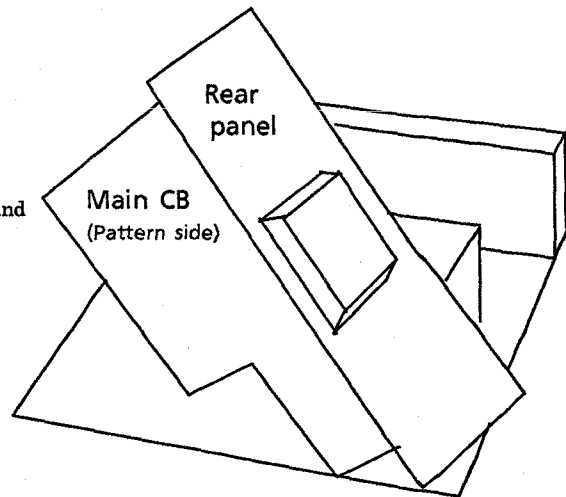

Figure 4
1. Remove the 4 screws (C) on the rear panel.
2. Remove the 4 screws (H) fixing the main circuit board and cut the tie bands.
3. Lift the back of the circuit board with the rear panel and heat sink as shown in figure 4.